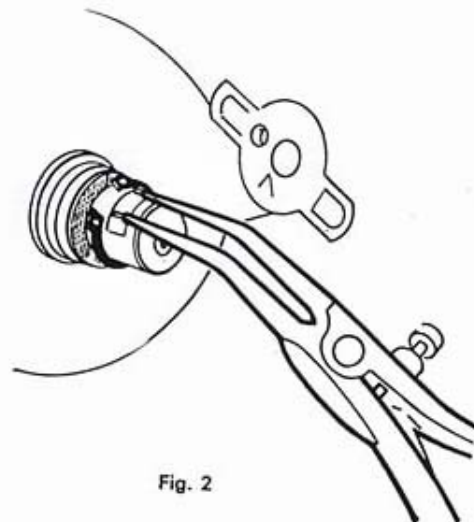

Fig. 2
- Remove the retaining ring (opening pliers, No. 100002) and the thrust washer (fig. 2).